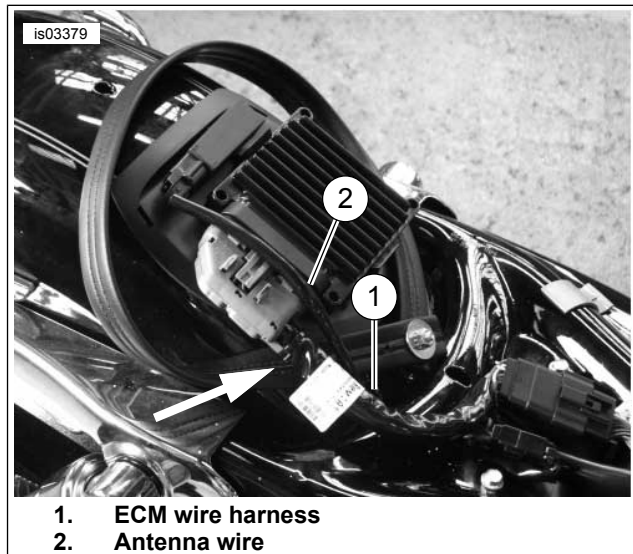

Figure 5. Grabstrap Routing Under Wires (2007-2009)
2. See Figure 5. **2007-2009 models:** Route grabstrap under ECM wire harness (1) and antenna wire (2). It is important to route grabstrap **under** wire harness and antenna wire so it does not interfere with wiring. If grabstrap is routed over wires, contact may occur when seat is fully installed. **All other models:** Loop grabstrap around top of rear fender.